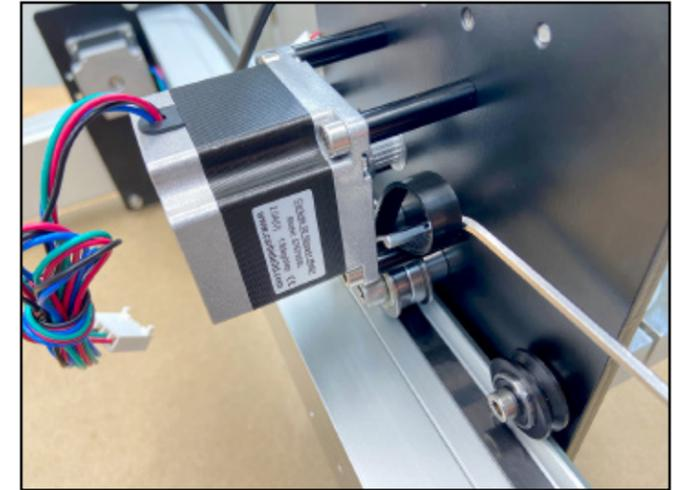

Figure 5-8
7. Use the 3mm hex key to reach in between the X-motor and carriage plate, hook the loop, and pull it up and out towards you. See **Figure 5-8**.